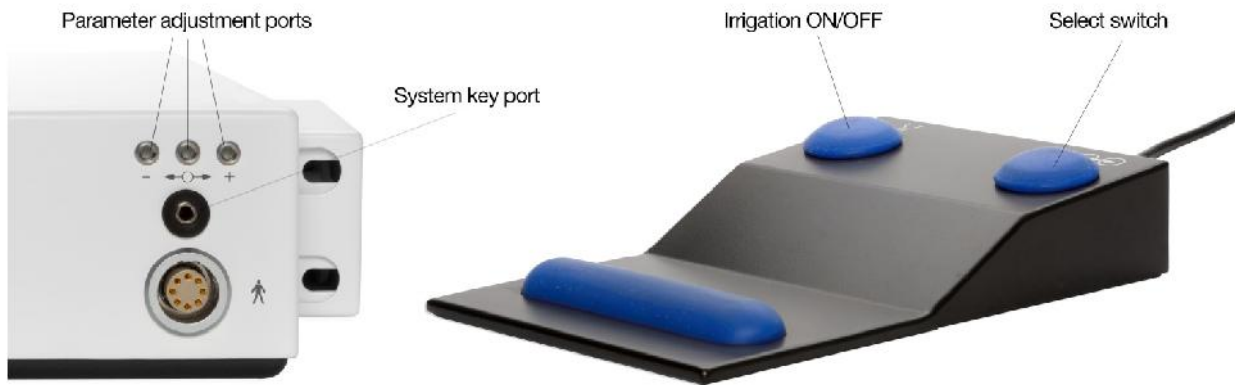

Fig. 9 + 10
1. Insert the implant system access key in question into the system key port - see Fig. 9 - and enter the programme step in question by operating the select switch on the foot control - see Fig. 10.
2. Enter the adjustment mode by clicking once into the central adjustment port - see Fig. 9 - by means of the adjustment pin. The cursor (white background) on the display now indicates that the speed (RPM) is open for adjustment.